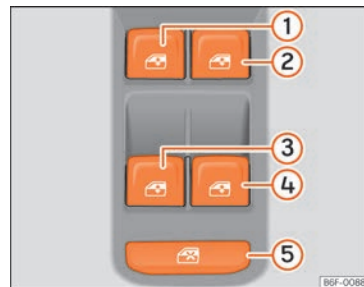

Fig. 106 Detail of the driver's door: window controls.
The safety control »»» Fig. 106 ⑤ on the driver door can be used to disable the electric window buttons on the rear doors.